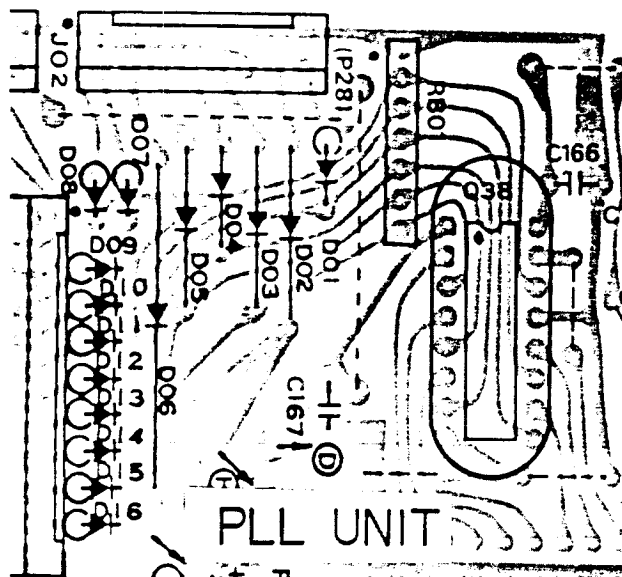

Figure 2-9
- 5) Cut all the pins of  $Q_{2038}$  from the component side, and unsolder the pins, as shown in Fig. 2-9.